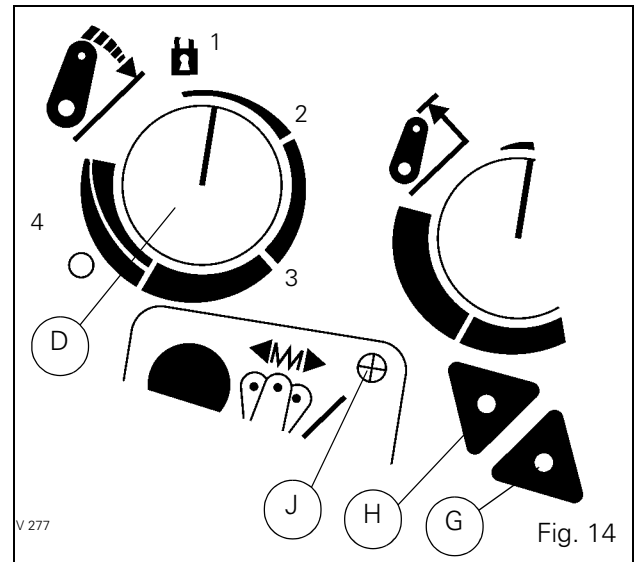

Fig. 14
Legend Fig. 14:
**When the external control is used, the lowering speed is 70% of the maximum speed (speed control D (Fig. 14) does not operate).**